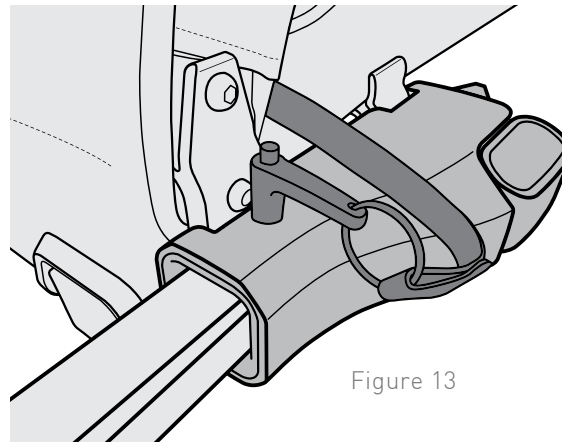

Figure 13
4. Depress the button on top of the secondary retaining pin and insert it into the aligned holes through the Quick Receiver and tow bar (Figure 13).